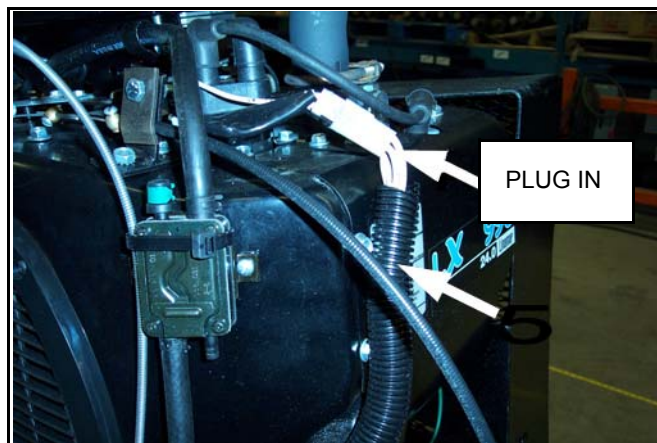

Figure 3.45
7. Plug extended wire into connectors on key and motor as illustrated in Figures 3.45 and 3.42.